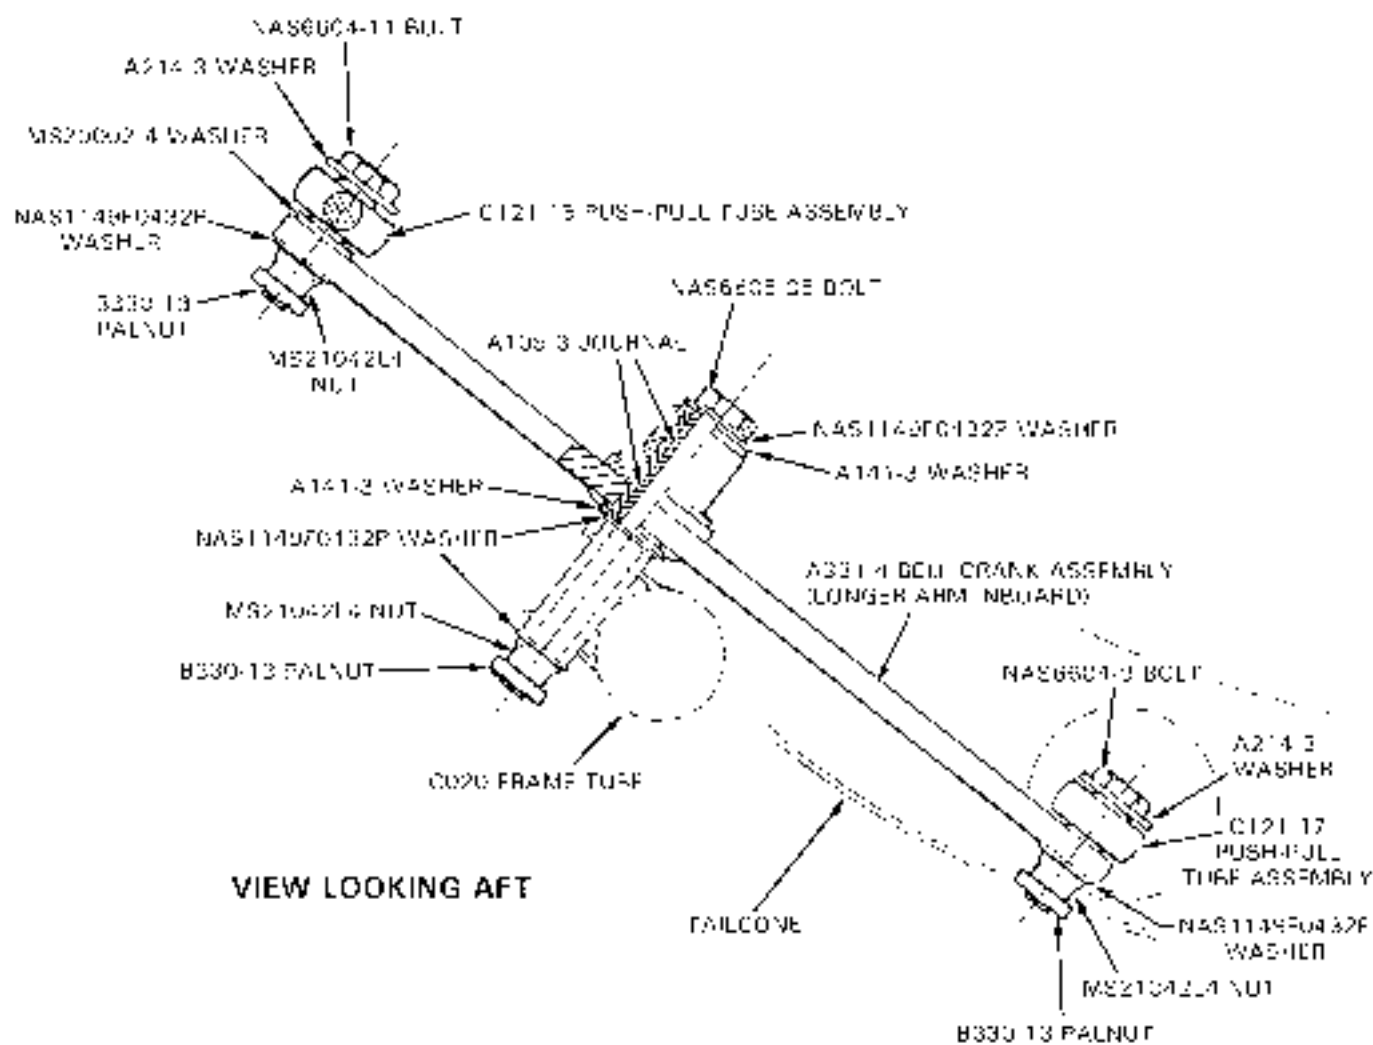

FIGURE 8-14 A331-4 BELLCRANK INSTALLATION
8.540 A331-4 Intermediate Bellcrank (See Figure 8-14)